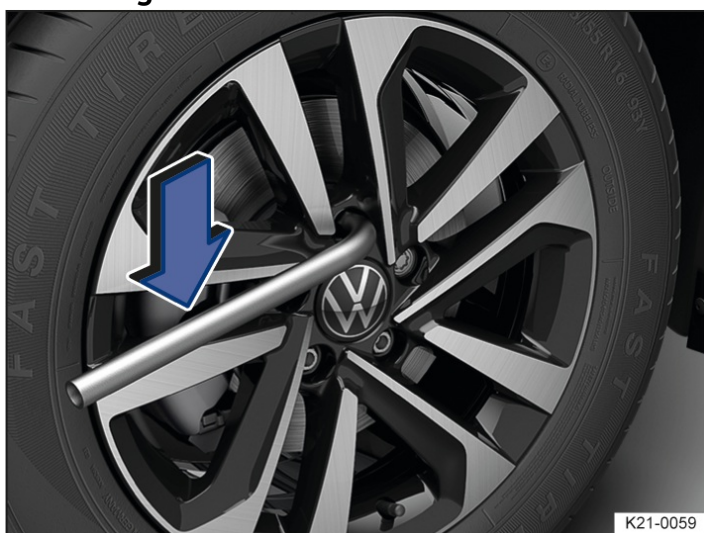

Fig. 1 Wheel change: Unscrew the wheel bolts with the wheel wrench.
4. Using the wheel wrench → Fig. 1, completely unscrew loosened wheel bolts and place them on a clean surface.